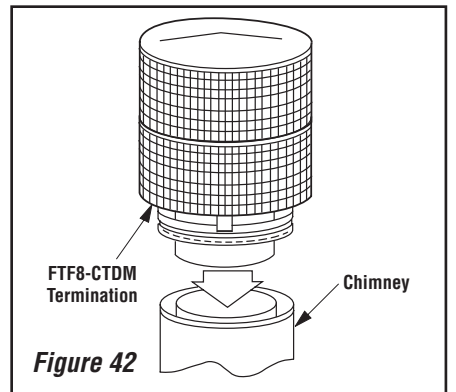

Figure 42
1. Hold the FTf8-CTD (or CTDP) over top of last chimney section (**Figure 42**).